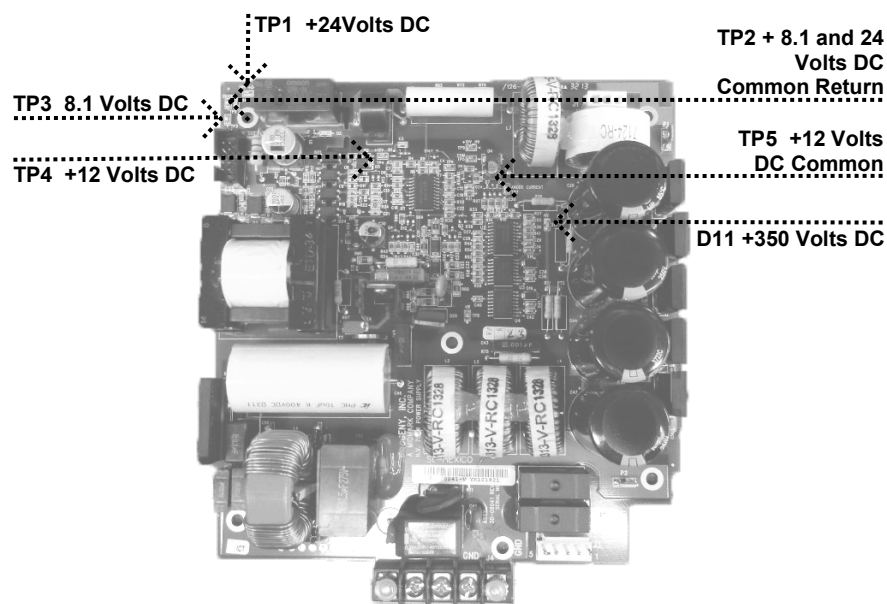

Figure 57
1. On the Power Supply Board, observe that the power supply indicator D11 +350volts DC is illuminated, as shown in *Figure 57*. Illumination represents proper stored energy for an exposure. If this indicator is not illuminated, it will be necessary to replace this board.
3. On the Power Supply Board, use TP2 as a common test point to check TP1 +24 volts DC and TP3 8.1 volts DC. Then use TP5 as the common return to check TP4 for the presence of +12 volts DC, as shown in *Figure 57*. Should any of these voltages not be present, replace the Power Supply Board. If each voltage is present, check other voltages on the Logic Board.